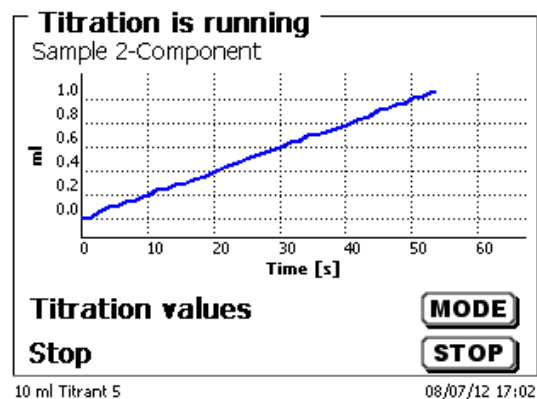

Fig. 54
- or the titration curve in ml/time [s] appears (Fig. 54).